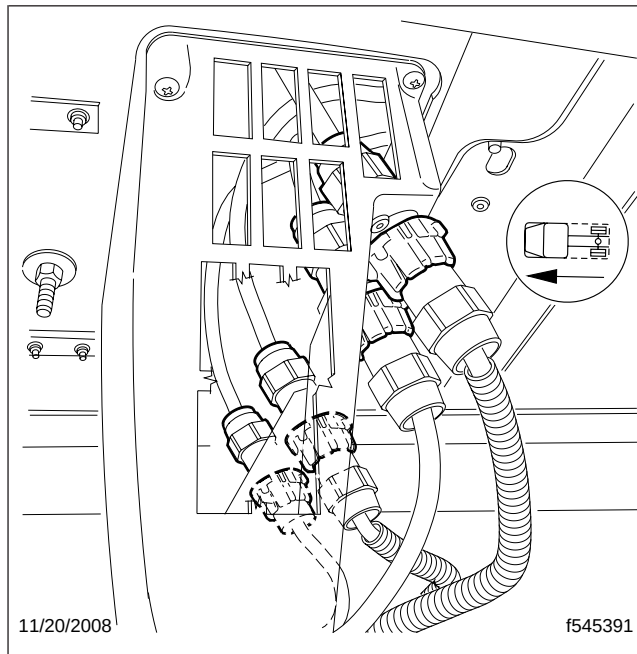

Fig. 1, Outlet Cover Connections
8. Remove the four electrical connector receptacles from the outlet cover. See Fig. 1.